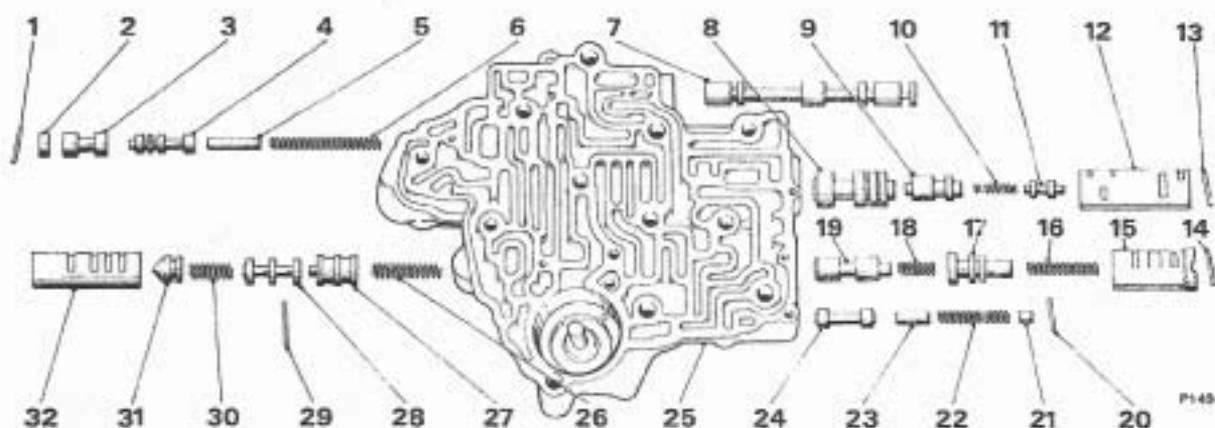

FIG. T199 CONTROL VALVE UNIT
1. Hold the control valve unit with the cored passages uppermost, and the accumulator piston bore to the front as shown in Figure T199.
Before commencing assembly, ensure that all springs can be positively identified, otherwise the transmission will not function correctly. Refer to Figure T199 during assembly procedure.